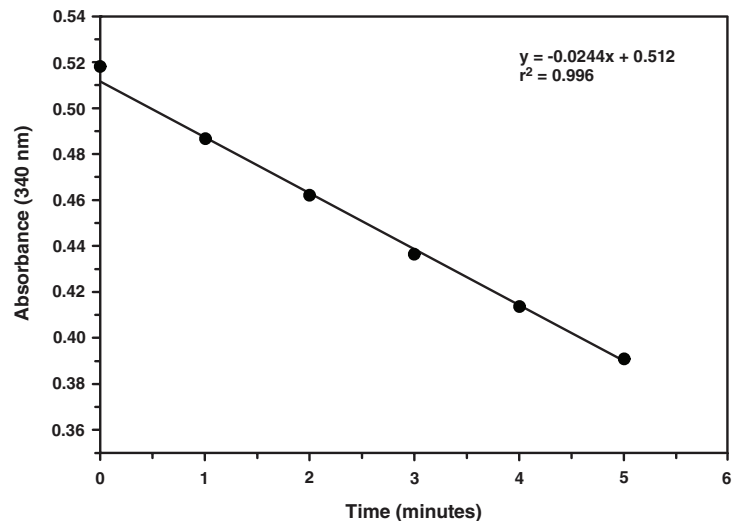

Figure 3. Activity of porcine heart alanine transaminase
- a. Plotting the absorbance values as a function of time to obtain the slope (rate) of the linear portion of the curve (a graph is shown using porcine heart alanine transaminase, see Figure 3, page 14).